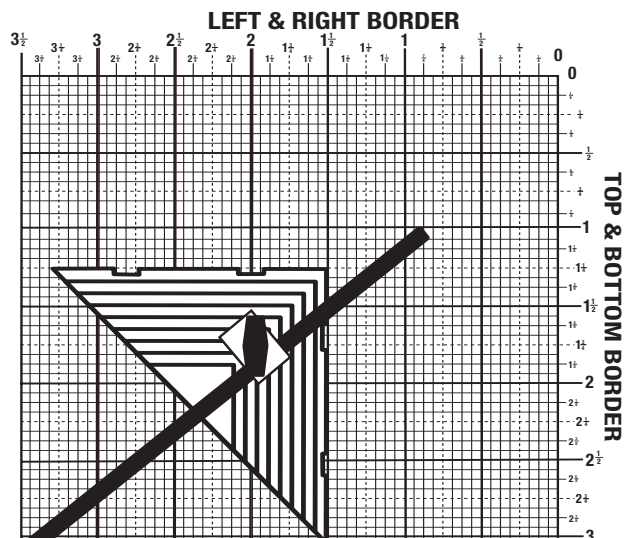

Fig.10
***REMARQUE : L'ÉCHELLE DU GUIDE-BORDURE EST 1 PO = 1/2 PO. LISEZ SIMPLEMENT LES VALEURS D'ÉCHELLES TELLES QU'INDIQUÉES SUR LE GUIDE-BORDURE. (FIG. 10)**
***NOTA: IL RIGHELLO SULLA GUIDA PER BORDI È 1"=1/2". È SUFFICIENTE LEGGERE LE MISURE SUL RIGHELLO INDICATE SULLA GUIDA PER BORDI (FIG. 10).**
MAßE SO AB, WIE SIE AUF DER RANDSCHABLONE ANGEZEIGT SIND. (ABB. 10)
***TENGA EN CUENTA QUE LA ESCALA EN LA GUÍA DE BORDES ES 1"=1/2". SIMPLEMENTE LEA LAS MEDIDAS DE LA ESCALA DEL MODO EN QUE SE INDICAN EN LA GUÍA DE BORDES. (FIG. 10)**